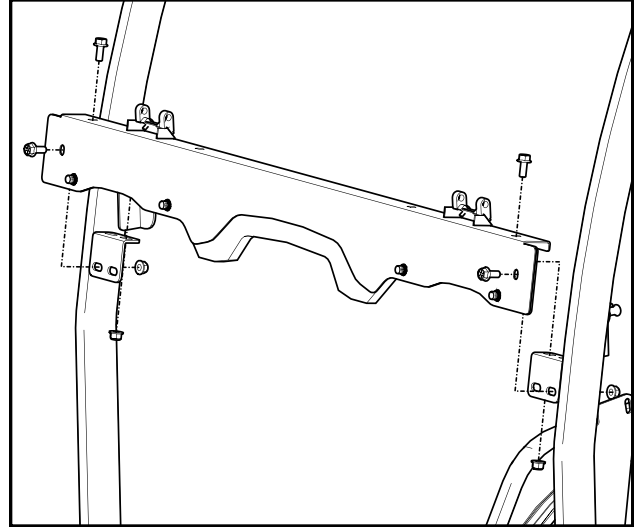

Fig. 6.1 (Cowl)
6.1 Fasten the cowl to the side frames as shown in Figure 6.1. The foam seal in the center should lay across the dashboard and flex inwards towards the steering wheel.